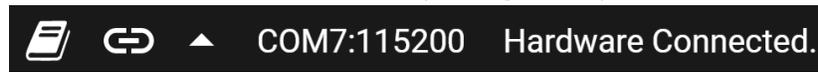

Figure 3-6. Hardware Connected
2. With the EVM connected to the GUI, close the README.md file page. The text near the bottom-left hand corner of the GUI should read *Hardware Connected* (see Figure 3-6).